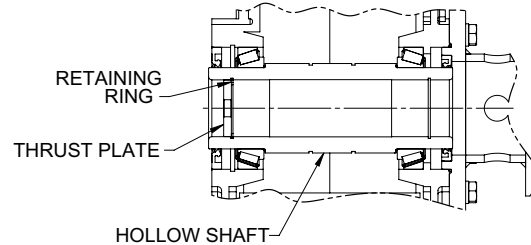
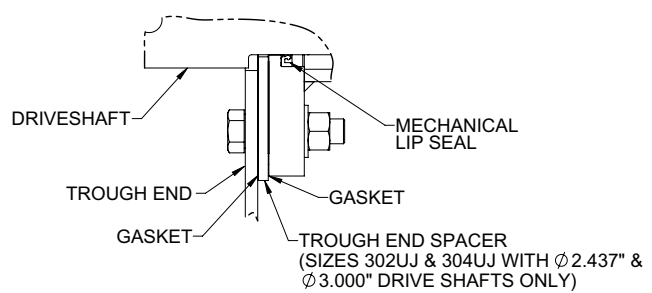

Figure 9
Figure 10
- Separate contents from drive shaft kit. Install thrust plate and retaining ring in hollow shaft as illustrated in Figure 9. For sizes 302UJ and 304UJ drives with either 2.437" (61.9 mm) or 3.000" (76.2 mm) diameter drive shaft, place two (2) gaskets and trough end spacer, packaged separately, over trough end surface of seal housing as illustrated in Figure 10. Continue assembling based on type of trough end seal to be installed: (a) Waste Packing Seal, or (b) Lip Seal.
- Lip Seal (Figure 10) — Coat outside diameter of seal with Permatex #3 or equivalent. Drive seal into seal housing with spring loaded seal lip away from the driver. Wrap keyway on tapered shank of drive shaft with masking tape or light weight Kraft paper to protect against damaging seal lips. Coat seal lips and straight portion of drive shaft with bearing grease. Insert drive shaft into seal housing. Remove protective wrap and install drive shaft key. Align drive shaft key with keyway in hollow shaft and insert drive shaft into hollow shaft. The seal housing has a register fit with the basic drive. Install drive shaft thrust plate fastener through thrust plate and torque to the value specified in Table 5. Install seal housing fasteners to secure
- (b) Lip Seal (Figure 10, Page 6) — Remove key from drive shaft keyway. Remove any burrs from tapered end of shaft and wrap entire length with masking tape or a light weight Kraft paper to protect seal lips during removal. Carefully remove seal housing toward tapered end of drive shaft.